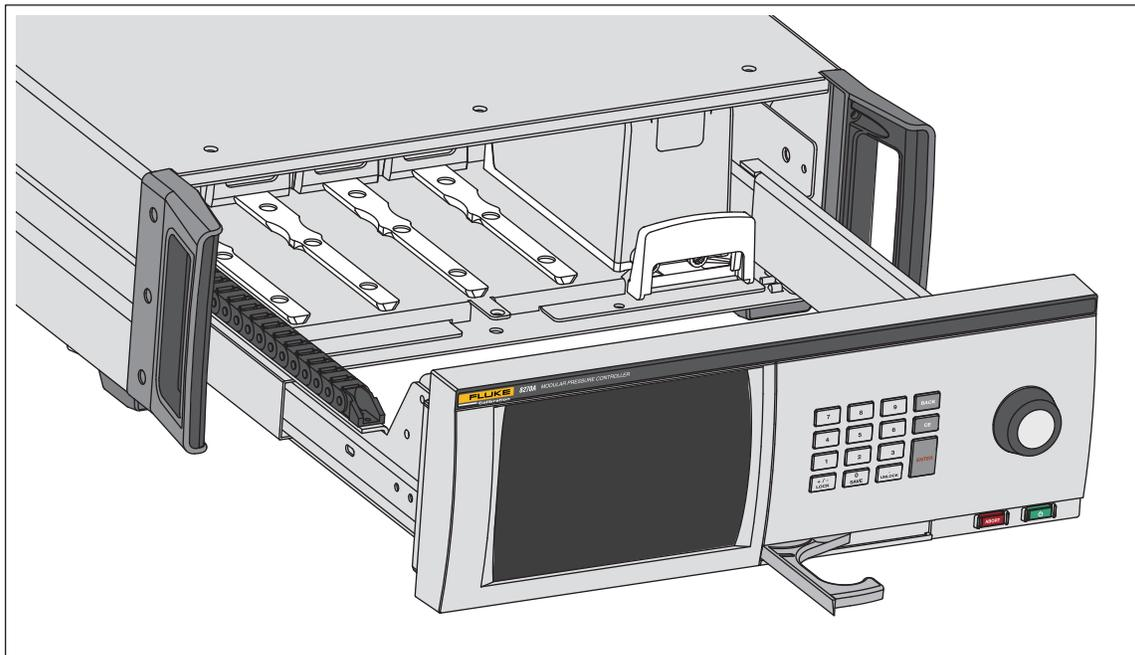

Figure 3. PCM Installation
4. The PCM location in the Module Bay is on the far right. Align the track on the bottom of the PCM with the PCM slot inside the Module Bay. See Figure 3.